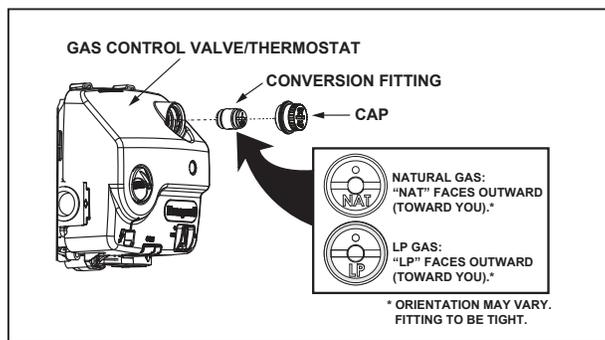

Figure 25: Conversion Fitting
2. Check the setting of the conversion fitting in the gas control valve (Figure 25).
4. Make sure both the conversion fitting (Figure 25) and the manifold burner assembly (see door label) are for the type of gas supplied to your home.
1. Remove the cap (shown in Figure 25).
- A. **LP GAS:** If you are converting the unit to use LP gas (propane), verify that "LP" is marked on the exposed end of the fitting. "LP" must face outward (toward you). See Figure 25. If "NAT" faces outward, repeat step 2.
natural gas, verify that “NAT” is marked on the exposed end of the fitting. “NAT” must face outward (toward you). See Figure 25. If “LP” faces outward, repeat step 2.